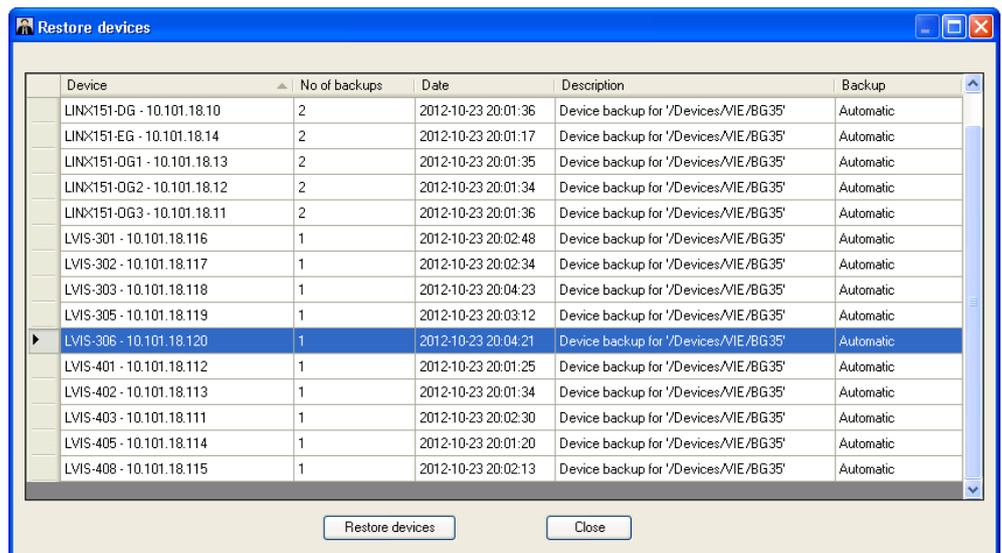

Figure 206: Restore Devices Dialog
3. The **Restore devices** dialog (see Figure 206 and Table 50) allows selecting the backups which will be restored. Per default the latest backup is selected for each device. You can select a different backup using one of the following methods: